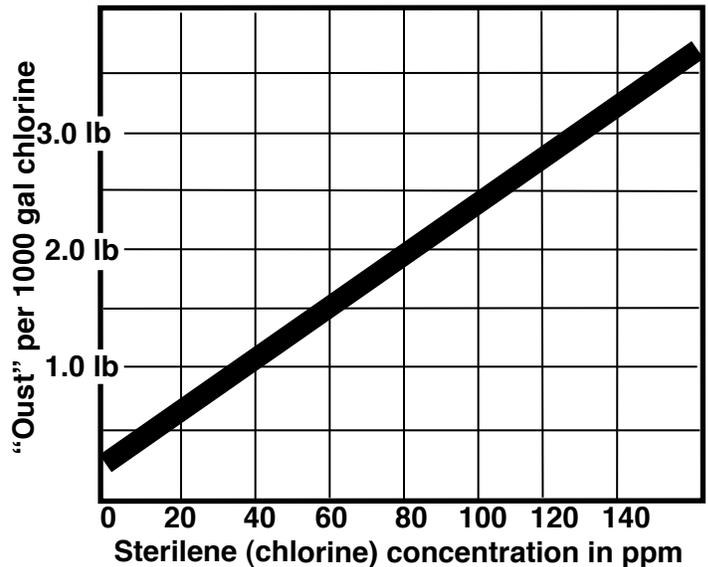

Fig 10
4. Determine from the chart in Fig 10, the total amount of “Oust” required per 1000 gallons of water dependent upon the average chlorine residual in the tank. Example: The tank is 800 gallons with an average chlorine residual of 80 ppm. $800 \text{ gallons} \div 1000 \text{ gallons} = .80$ multiplier times 2 lbs (Fig 10) = 1.6 lbs “Oust” for the first tank.